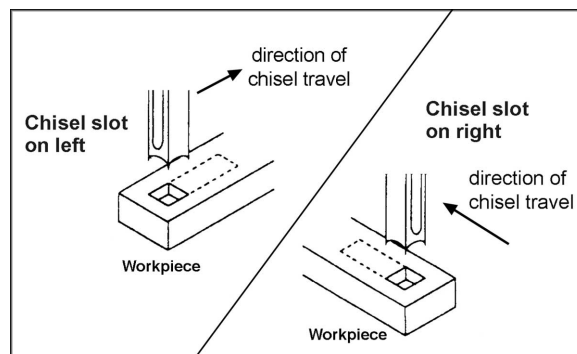

Figure 21
6. After the first cut, the head is moved using one of the handles for each successive cut. The direction of movement must allow the chips to clear freely. Move the workpiece so that the slot in the chisel is releasing chips into the already-cut part of the workpiece (Figure 21).